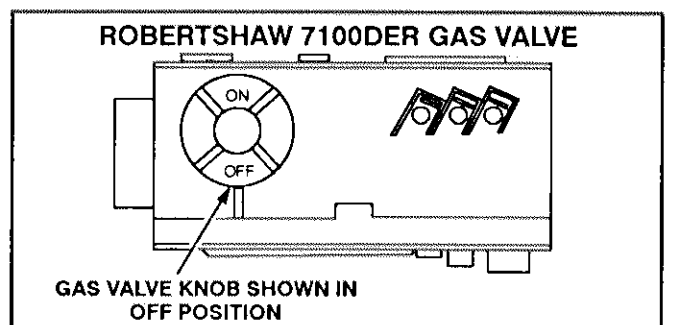

FIGURE 3
Gas Valve Operation (Figures 3–5)
- 6- On Robertshaw 7100D and Honeywell VR8204 gas valves, turn knob on gas valve clockwise ➡ to **OFF**. Units with Robertshaw 7200 gas valve, depress lever and move to **OFF** position. Do not force. See figures 3 through 5.
- 7- Wait fifteen (15) minutes to clear out any gas. If you then smell gas, **STOP!** Immediately call your gas supplier from a neighbor's phone. Follow the gas supplier's instructions. If you do not smell gas go to next step.